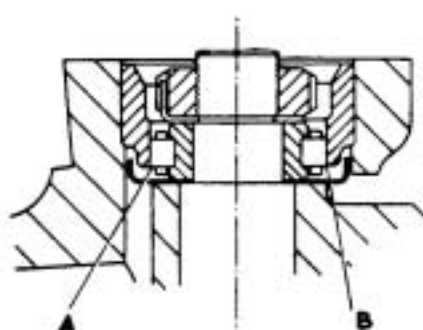
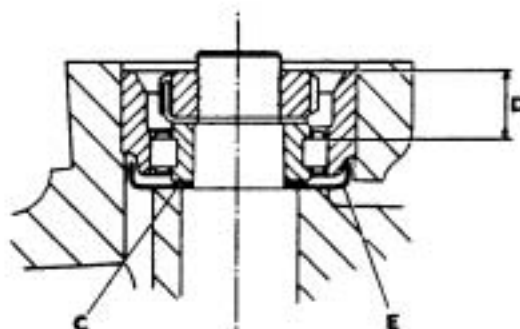

FIG. 1.
FIG. 2.
Whenever the stub axles have to be removed from a car for re-conditioning purposes as described in Sub-Section EK-2, of the Workshop Manual, opportunity must be taken during the re-assembling operations to check the inner roller race fitted to the upper end of the pivot pin for correct height in relation to its outer race. A condition can arise whereby the lower end of the rollers (A Fig.1) protrude below the lower edge of the outer race, i.e. at point 'B' due to an accumulation of adverse limits of machined parts. Fig. 2, shows the correct position of the rollers, i.e. the lower end face of the rollers are well above the lower edge of the outer race.
- (iii) Place a small straight-edge across the top face of the outer race of the upper roller bearing assembly of the pivot pin (not across the top face of the stub axle). With the rule or a small depth gauge, measure the distance downwards from the top face of the outer race to the top face of one of the rollers (not the brass roller cage), i.e. dimension 'D' Fig. 2 and note.
- b) If dimension 'D' is between the limits of .480" - .515" (12.2-13 mm), then it will be necessary to remove the pivot pin and fit a .040" (1 mm) thick packing washer ('C' Fig.2), Part No.R-4468, between the oil trough ('E') and the inner roller race.